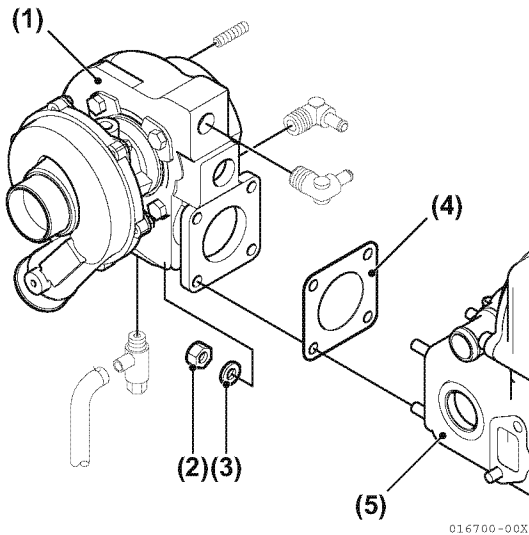

Figure 9-9
- (a) Remove four nuts and washers (Figure 9-9, (2), (3)) and remove turbocharger (Figure 9-9, (1)) from heat exchanger body (Figure 9-9, (5)).
- (b) Remove gasket (Figure 9-9, (4)).